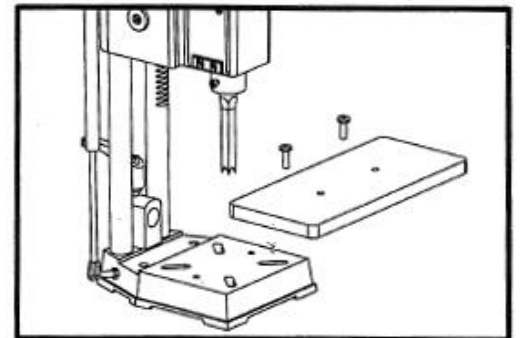

Fig.4
1. Secure the wooden work table with the two Phillips head screws provided. See Fig. 4.